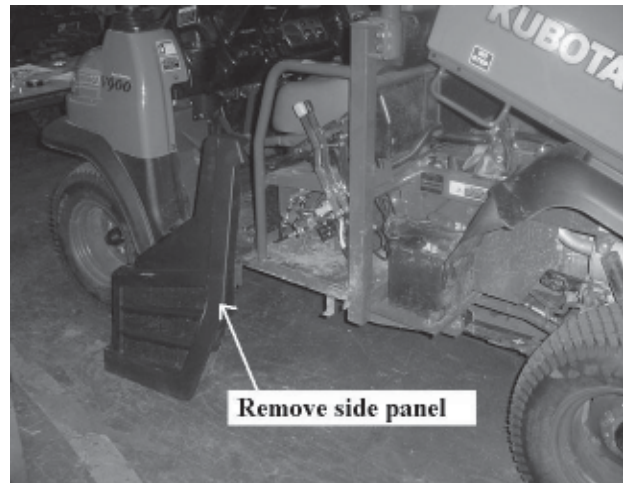

Figure 11
3. Remove the side panel from the driver's side, Figure 11.